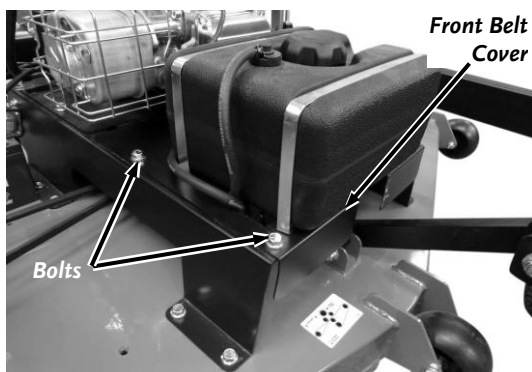

Figure 45
4. Remove the six Bolts (Pro 44TF Model) or four bolts (Pro XL60TF Model) securing the Front Belt Cover using a 9/16" Wrench and remove the Cover (Figure 45).